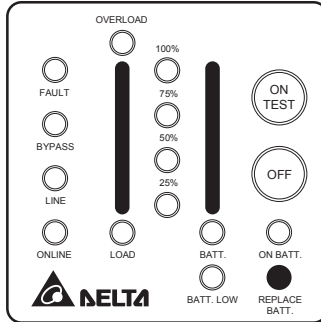

Fig 4-6 Battery Replace
- BATTERY REPLACE:** This LED function is to alert user that the batteries should be replaced. When the microprocessor in the UPS detects a battery fault, the UPS alarm will give out three beeps. Each beep lasts for 0.5 seconds and interrupted by an interval of 0.5 seconds. After the initial 3 beeps, the alarm will continue to sound every one hour. Shown as fig 4-6.